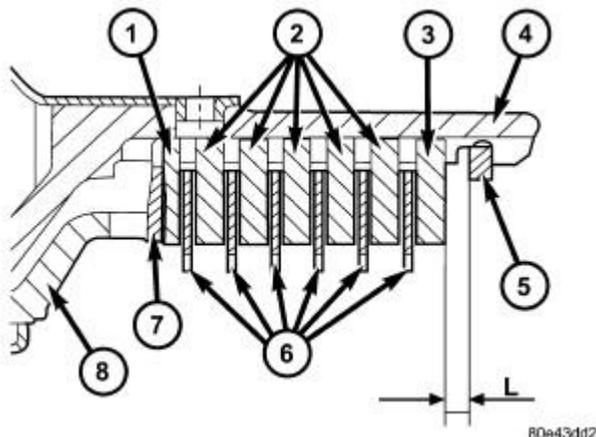

Fig. 139: Input Clutch K1 Stack-Up - Double Sided Discs
10. For transmissions using double sided friction discs, use a feeler gauge to determine the play "L" at three points between the snap-ring (5) and outer multiple-disc (3). Refer to **Fig. 139**.
11. During the measurement the snap-ring (5) must contact the upper bearing surface of the groove in the outer multiple-disc carrier (4).
13. Adjust with snap-ring (5), if necessary. Snap-rings are available in thicknesses of 2.6 mm (0.102 in.), 2.9 mm (0.114 in.), 3.2 mm (0.126 in.), 3.5 mm (0.138 in.), 3.8 mm (0.150 in.), and 4.1 mm (0.162 in.).
14. Insert front freewheeling clutch F1 (2) and fit snap-ring (3). The freewheeling clutch F1 (2) must be installed in the direction of the arrow.